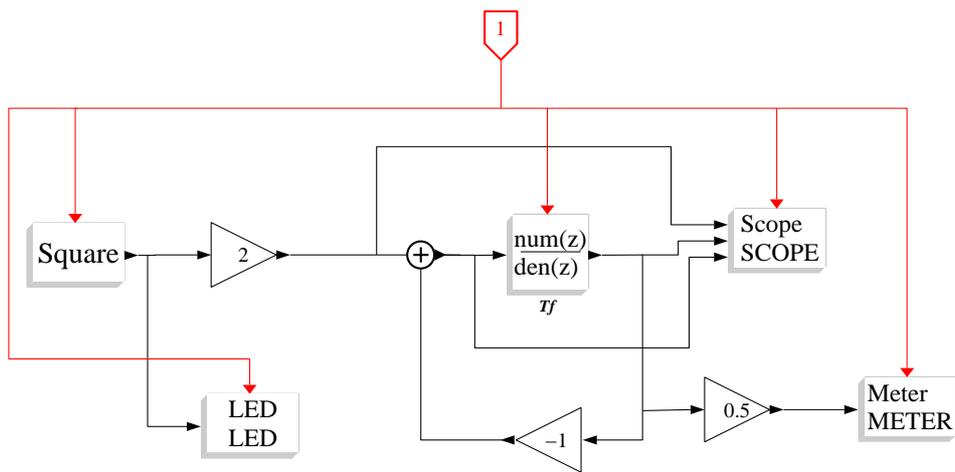

Figure 3: Scicos superblock
- We can access to the "Super Block" block diagram simply by clicking on it (figure 3). A good idea is to open the "Super Block" and to rename it ("Diagram" "Rename") to "test". This will be the name of the generated model and of the directory where the generated files are stored.